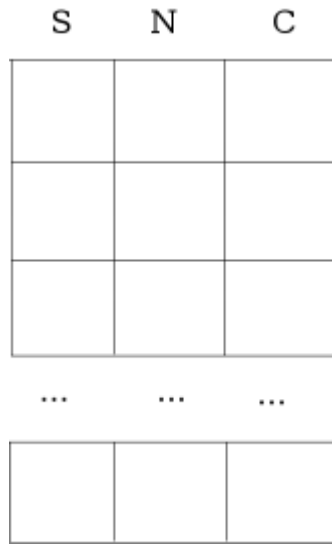

Figure 9.12
-  The Transpose 2D Array function located on the Functions»All Functions»Array palette rearranges the elements of the 2D array so element $\{i, j\}$ becomes element $\{j, i\}$, as in Figure 9.12.